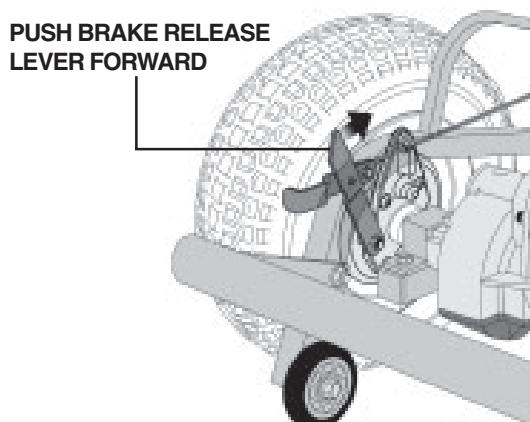
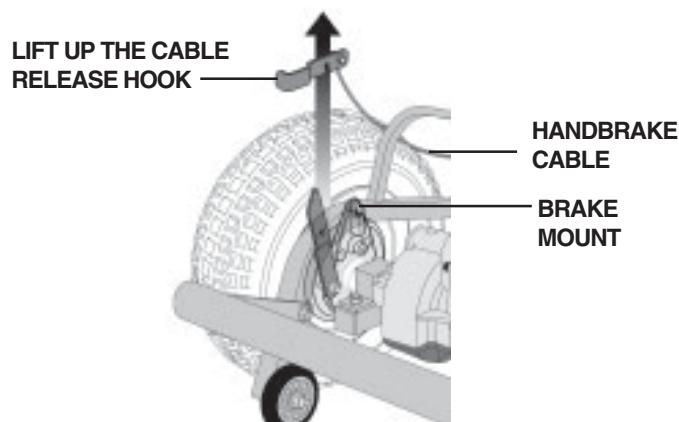

Figure 20. Brake Release Lever
Figure 21. Disengage Handbrake Cable
8. Disconnect the handbrake cable from the rear hub by pushing forward and holding the brake release lever with your thumb. See figure 20. Lift the cable release hook free of the peg and slide the handbrake cable free of its slot on the brake mount. See figure 21. Move the cable safely out of the way.